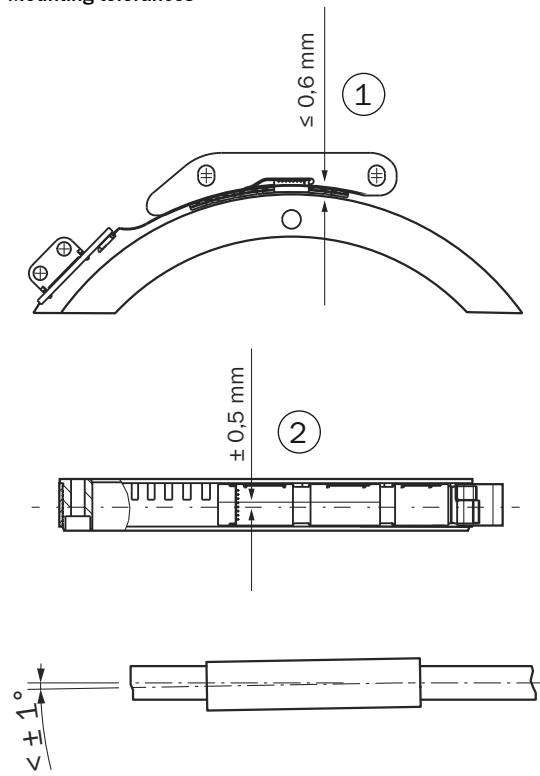

Figure 2: Mounting tolerances
- ▶ The location of the sensor compared to the magnetic ring is exactly defined. During mounting, make sure that there is an air gap between the magnetic ring and sensor head over the entire measuring distance (figure 2), regardless of whether the magnetic ring or the sensor head is moved. The supplied distance gage can be used as a mounting aid.
- ▶ The sensor head (6) must be fixed to the flange with 2 fixing screws (4) (not included with delivery).